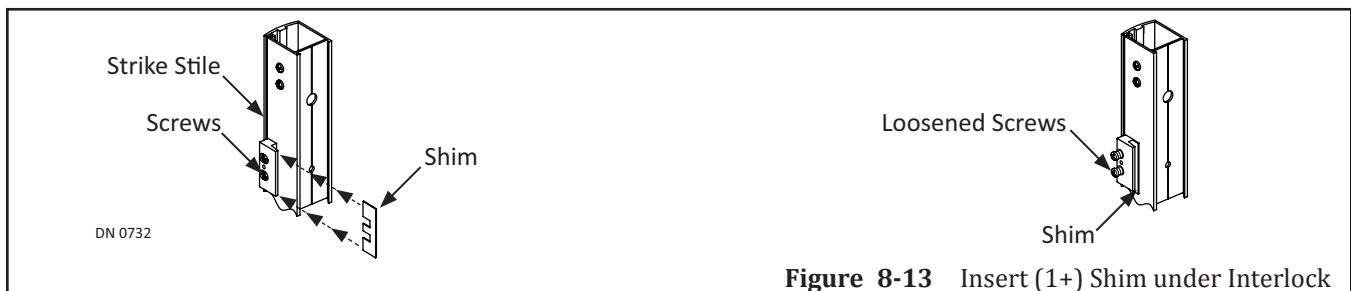

**Figure 8-12** Adjust Door Stops Accordingly
3. Adjust Door Stops for the Lead Door to the dimension shown in Figure 8-12.
- a. Adjust Belt Clip location on Trail Door as necessary to achieve dimension in Figure 8-12.